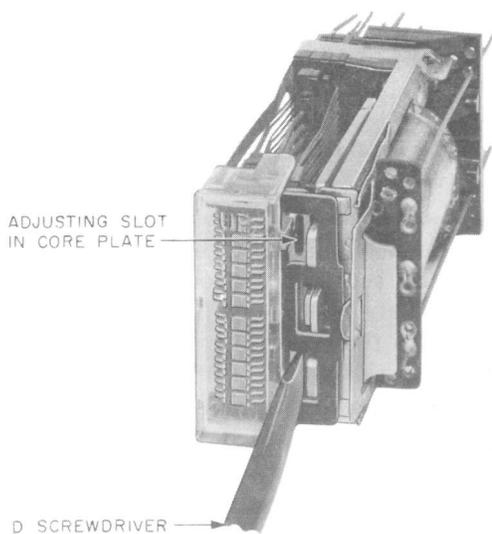
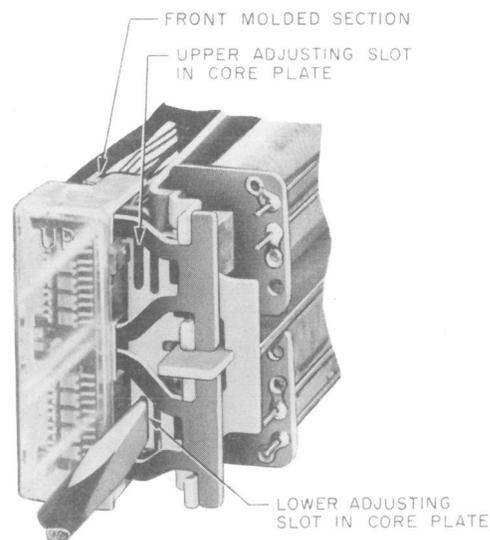

Fig. 17—Method of Adjusting Contact Separation
Fig. 18—Method of Adjusting Contact Separation—
(1) Adjustments to meet the contact make and break requirements are made by adjusting the upper and lower portions of the core plate to reposition the outer ends of the fixed contact springs which are supported in the front molded section. Since this molded section rests against the top and bottom of the core plate only, adjustment of either the upper or lower portion of the core plate will change the position of the fixed contacts in an inverse ratio to their distances from the top and bottom of the core plate, respectively. Thus, adjustment of the lower portion of the core plate will have the greatest effect on the position of the fixed contact in position 1 (lower half of relay) and negligible effect on the contact in position 12 (upper half of relay). This relation should be taken into account when making adjustments for contact make and break in either half of the relay and the adjustment should be made on either one or both portions of the core plate in order to obtain the required result with as little bending of either portion as practicable.
(2) **Contact Make:** To adjust for contact make, insert the D screwdriver as shown in Fig. 17 for AL-type relays or per Fig. 18 for AM-type into either the upper or lower adjusting slot in the core plate depending on whether the contacts to be adjusted are in the upper or lower half of the relay. To increase the separation between the movable break and fixed contacts, twist the screwdriver slightly clockwise in the lower slot and counterclockwise in the upper. If the contacts that require adjustment are located near the bottom of the upper half or the top of the lower half of the relay, the best adjustment is usually obtained by adjusting both the upper and lower portions of the core plate. After completing the adjustment, recheck the contact make and break and contact sequence requirements for both the upper and lower halves of the relay.
in Fig. 17 for AL-type relays or per Fig. 18 for AM-type into either the upper or lower adjusting slot in the core plate, depending on whether the contacts to be adjusted are in the upper or lower half of the relay. To increase the separation between the movable break and fixed contacts, twist the screwdriver slightly clockwise in the lower slot and counterclockwise in the upper. If the contacts that require adjustment are located near the bottom of the upper half or the top of the lower half of the relay, the best adjustment is usually obtained by adjusting both the upper and lower portions in the core plate. After completing the adjustment, recheck the contact make and break and contact sequence requirements for both the upper and lower halves of the relay.